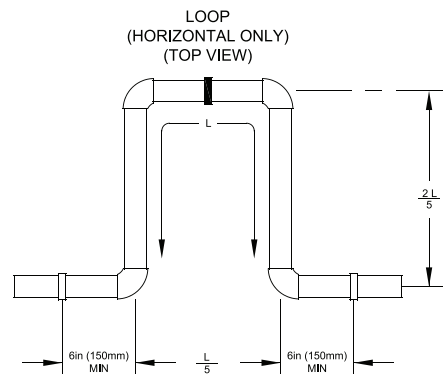

Figure 11: CPVC/PVC Expansion Loop and Offset
- b. Design the vent system to allow 3/8 in. (9.5 mm) of thermal expansion per 10 ft. (3.0 m) of CPVC/PVC pipe. Runs of 20 ft. (6.1 m) or longer that are restrained at both ends must use an offset or expansion loop. Refer to Figure 11 and Table 8.